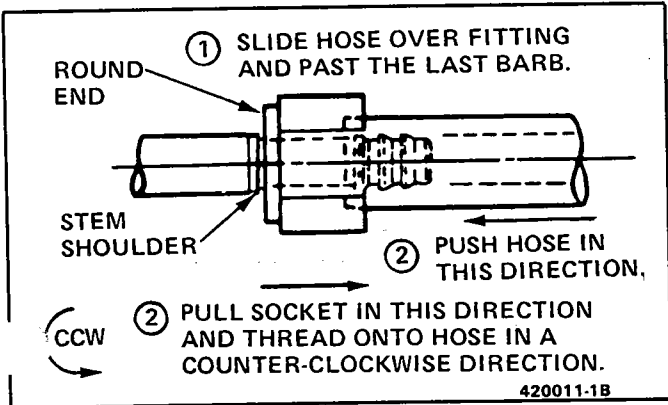

Figure 1B-11 Nylon Line Filter Installation
4. Insert pipe end into can fitting until pipe bottoms in the fitting body (Figure 1B-12). If the fitting requires assembly, the tapered end of the ferrule goes into the fitting body.
5. Tighten fitting nut to "finger tight." Then with open-end wrench, tighten fitting nut an additional 3/4 turn while holding the can with a second open-end wrench. (Figure 1B-12).